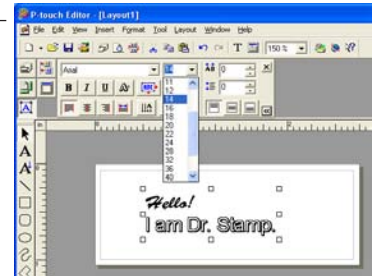

figure 8
- ❶ Display the Text Properties.
- ❷ With the Select tool, click the block of text to be changed in the stamp layout. Handles appear around the text block.
- ❸ From the “Size” drop-down list, select the desired character size (see figure 8).